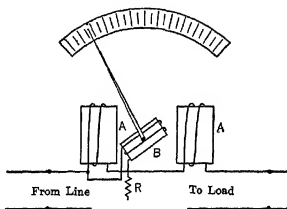

FIG. 256. Diagram of wattmeter.
Fig. 256 shows the arrangement of one of these instruments. The coils *A-A* carry the current of the load and supply a magnetic flux in the same way as do the field windings of a motor. The movable coil *B* carries a current proportional to the voltage across the line.
**138. The Watthour Meter.** If, instead of the movable coil *B*, Fig. 256, a coil of fine wire equipped with a commu-